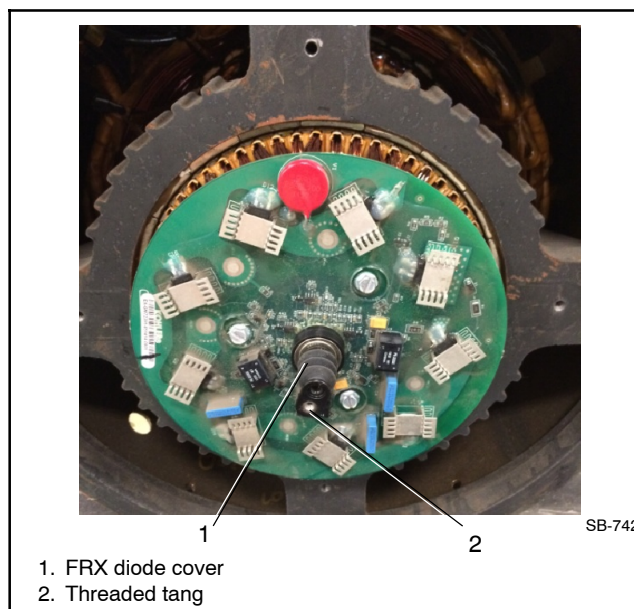
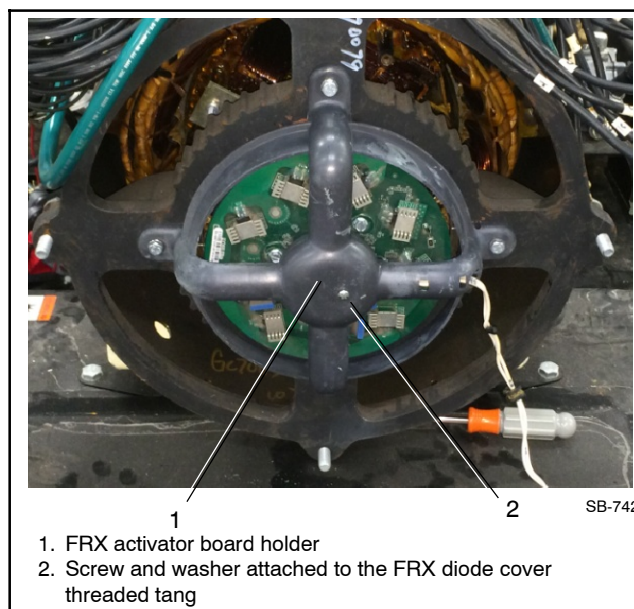

Figure 10 Installing the FRX Diode Cover
Figure 11 Installing the FRX Activator Board Holder
- 4.3 Install FRX diode cover GC94111 in the inner race of the ball bearing. See Figure 10.
- 4.7 Rotate the threaded tang of the FRX diode cover as necessary to align the threaded hole with the drilled hole in the FRX activator board bracket. Install the pan head screw M7985A-04016-20 and plain washer X-25-48 and torque to 1.3 Nm (12 in. lb.). See Figure 10 and Figure 11.